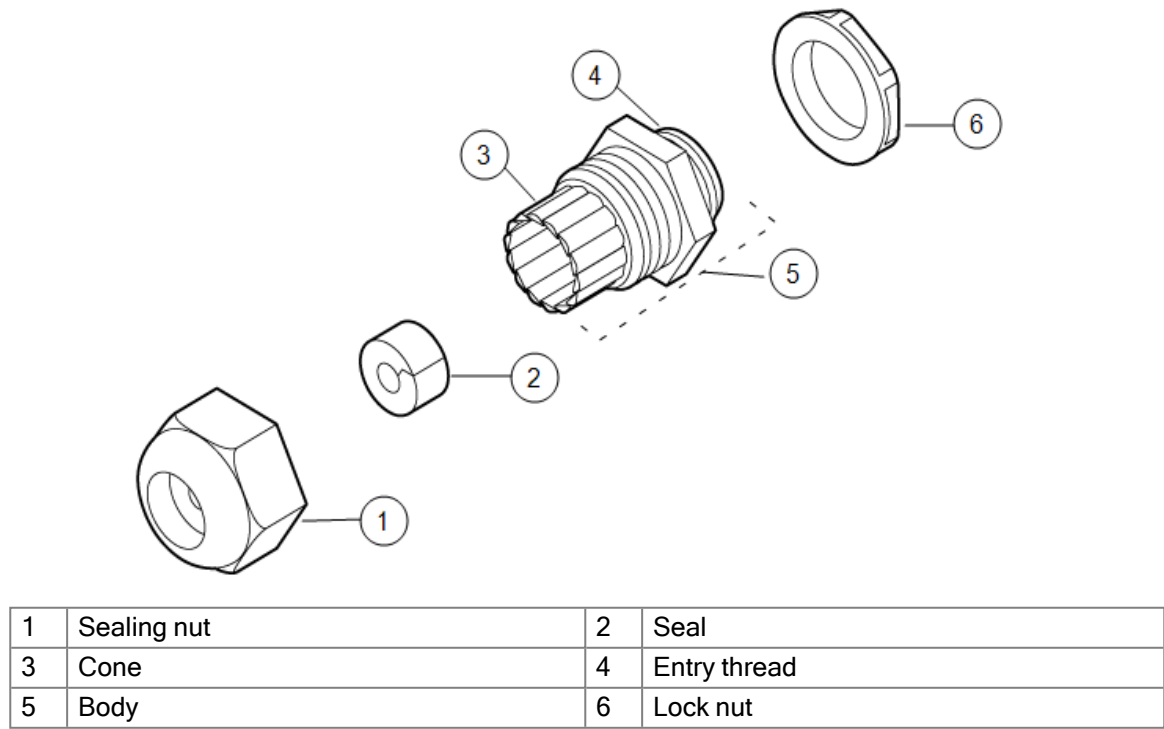

Figure 3.2: Cable gland separated into parts.
1. Separate the cable gland and identify the parts you are going to use, as show in Figure 3.2